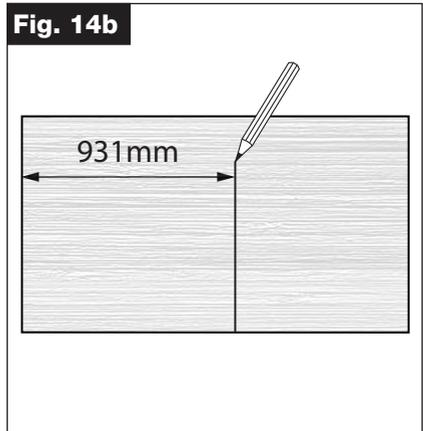

Fig. 15a
- For an edged finish, insert location pins into Door Concave Pin Holes marked "C" (Fig. 15a).